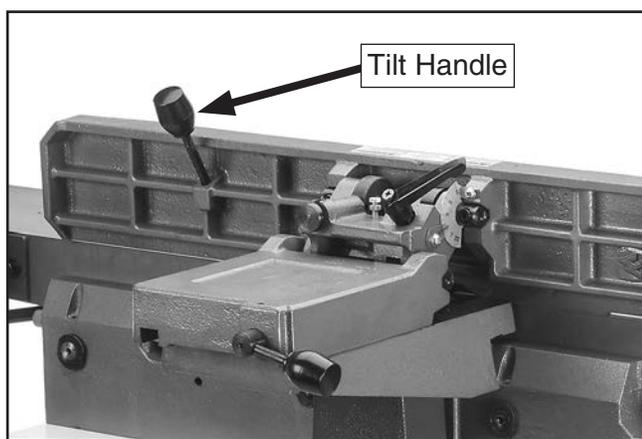

Figure 28. Fence tilt handle installed on rear of fence.
16. Install fence tilt handle, as shown in **Figure 28**.